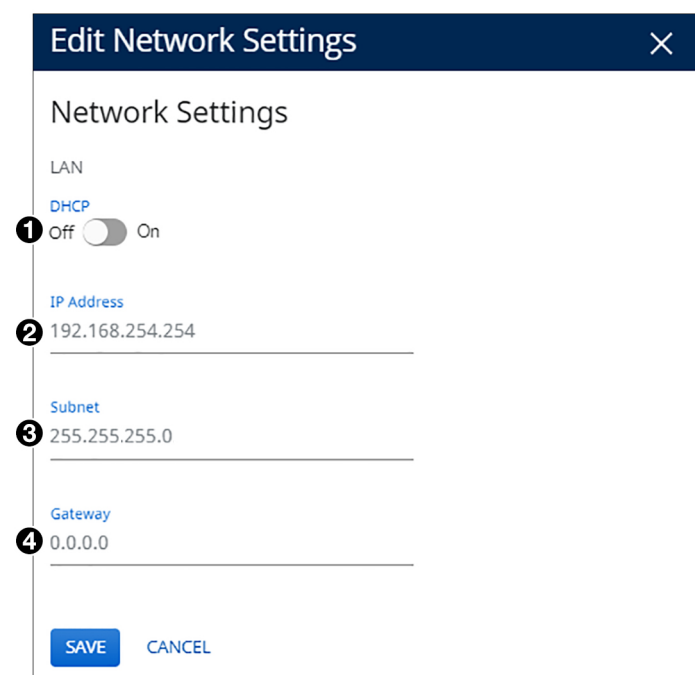

Figure 58. Edit Network Settings Screen
- **DHCP** — Click the **DHCP** button (see figure 58, ①, on the previous page) to toggle DHCP on and off. When DHCP is enabled (**On**), the unit configures its IP address and other network settings from the DHCP server. The default is **Off**.
- **IP Address, ②, Subnet mask ③, and Gateway address ④** — To set any of these addresses, click in the desired field and enter the address.